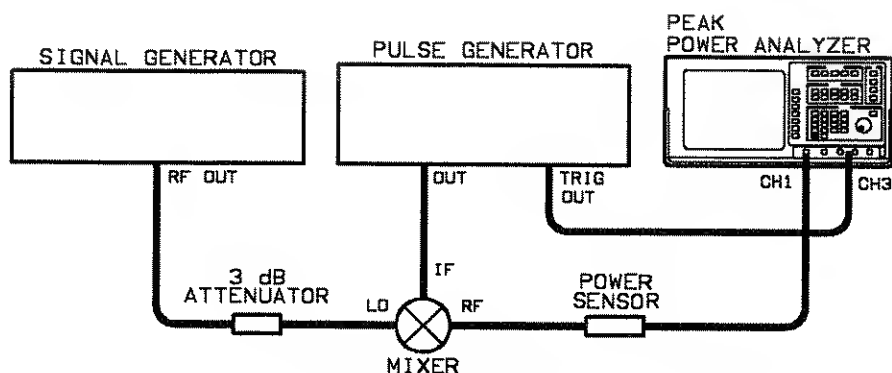

Figure 4-1. Checking Channel 1 and Channel 4 Risetime Equipment Setup
3. Connect the equipment as shown in Figure 4-1.